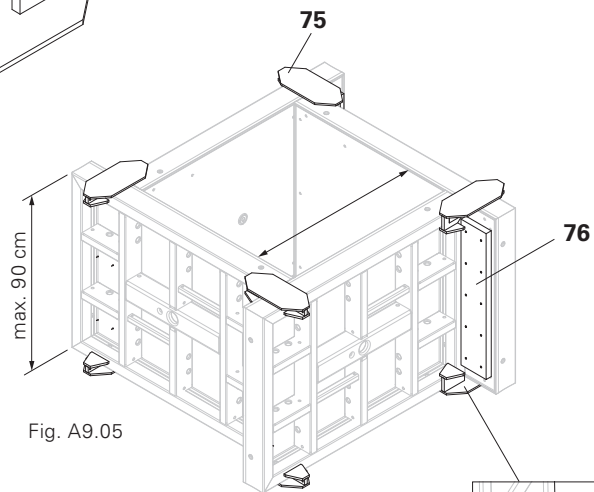

Fig. A9.05
1. Secure limiting board (76) on the formlining with nails – at a distance perm. W + 12 cm.
5. Install Foundation Strap at top and bottom (8x in total). (Fig. A9.05 + A9.05a)